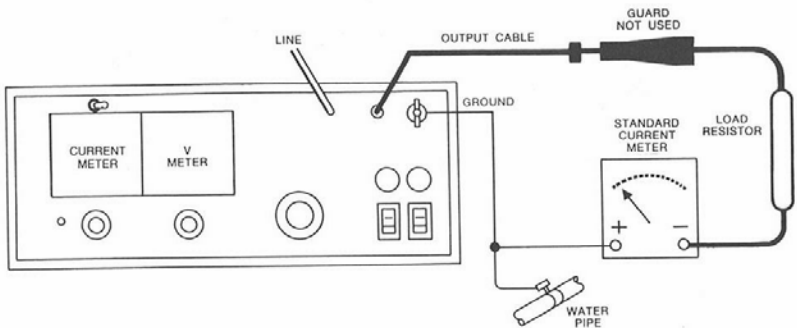

Figure 20: Connections for Calibration of the Current Meter
1. Make connections as shown in Figure 20 using 5  $\mu$ A range on standard meter and 10-megohm resistor.